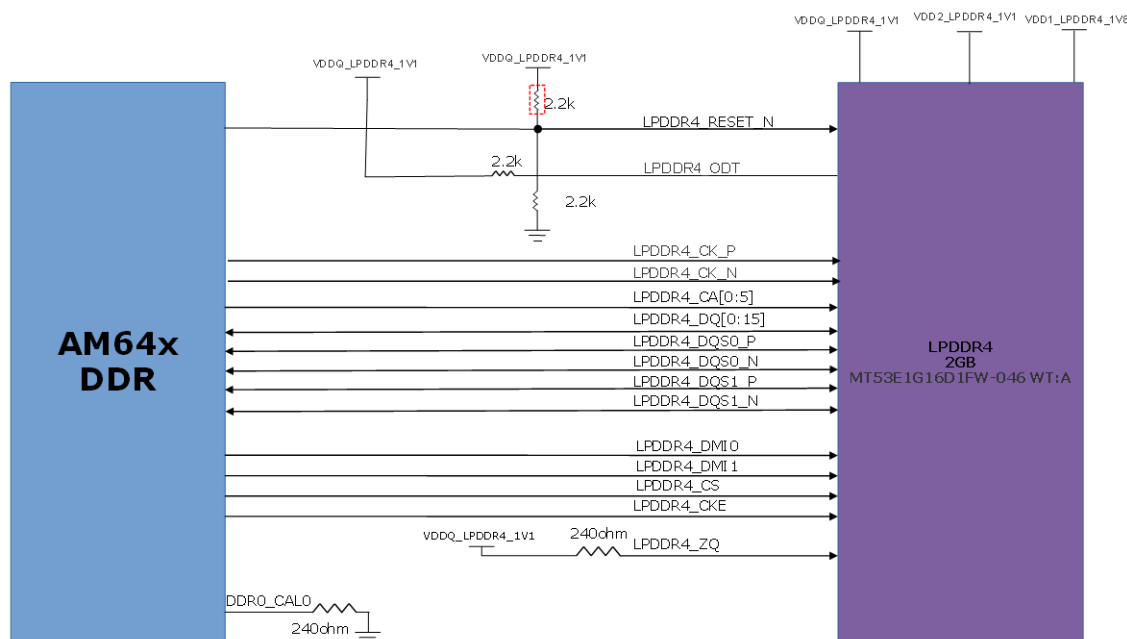

Figure 2-14. LPDDR4 Interface
The ODT (On Die Termination) is applied to DQ, DQS and DM_n signals. The device is capable of providing three different ODT modes: Nominal, Dynamic and Park with termination values: RTT (Park), RTT (NOM), and RTT (WR). Figure 2-14 shows the DDR interface between LPDDR4 and AM64x.